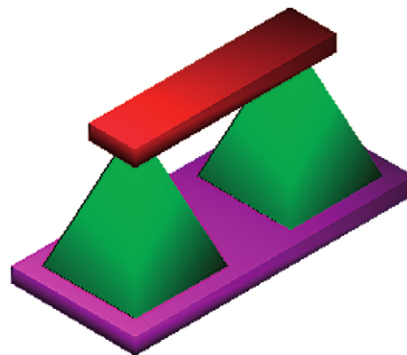

Fig. 18.26 Exercise 5
5. Using the **Pyramid** and **Box** tools from the **Surfaces** toolbar construct the 3D model in Fig. 18.25. Then place the model in the **SW Isometric** view and using the **Realistic** shading from the **3D Orbit right-click** menu, hide lines behind the front faces (Fig. 18.26).